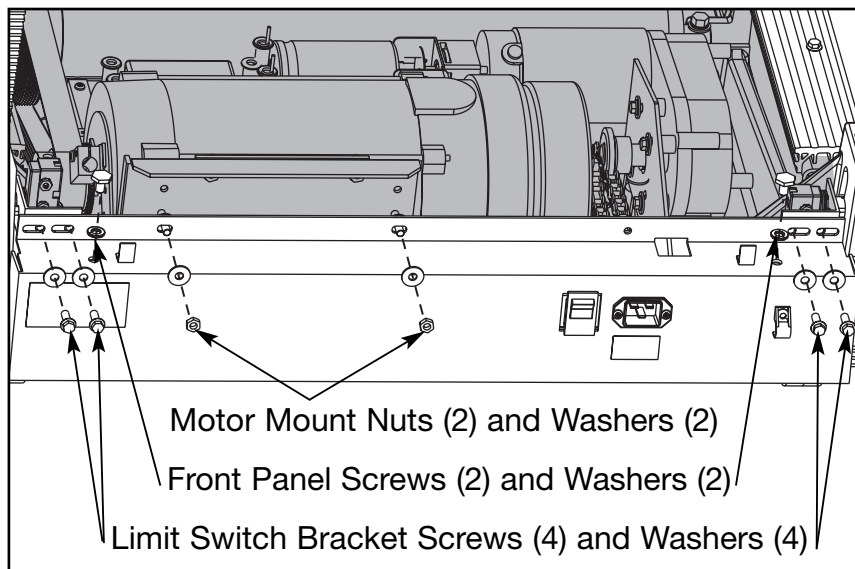

Figure 8
- A. Turn the main power switch in the front panel to the off (O) position.
- A. Using a 3/8" socket wrench, remove the two screws and two washers that hold each limit switch bracket to the front panel. Set the screws, washers and limit switch assemblies aside. See Figure 8.
- B. Using a 1/2" socket wrench, remove the two screws from the top of the front panel. See Figure 8.
- C. Using a 7/16" wrench, remove the two nuts and washers that hold the mounting plate to the front panel. See Figure 8.